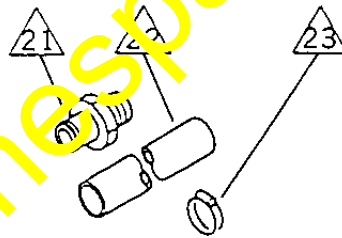

Fig. 31
Replace the existing HOSE (6166-21-5600) for engine oil pan oil drain use with the newly supplied HOSE (6215-21-5600) (1). (See Fig. 31)